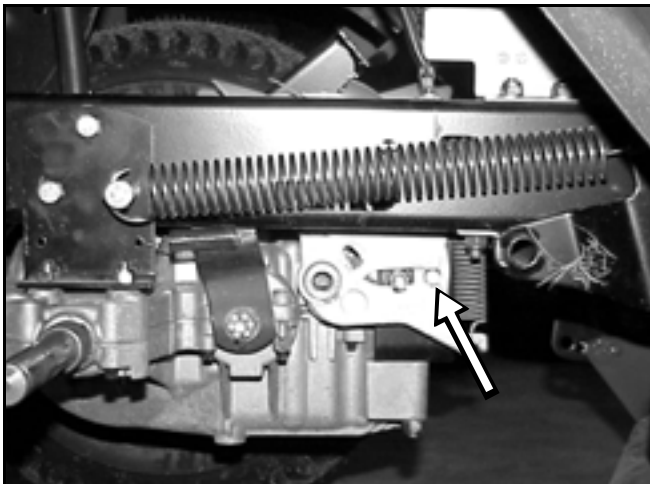

Figure 101
3. Move the peg up or down until the wheel creep is minimized. There may still be a slight creep with the wheel off the ground (Figure 101).